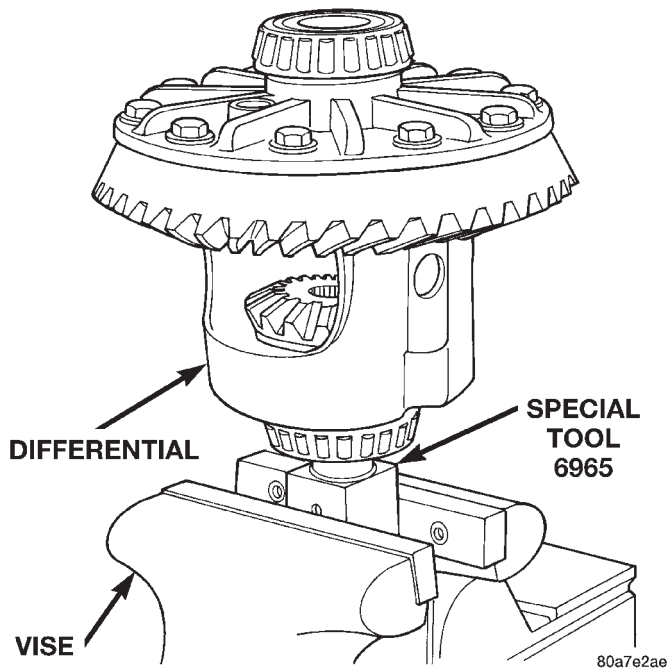

Fig. 64 Differential Case Holding Tool
- (1) Clamp Side Gear Holding Tool 6965 in a vise.
- (2) Position the differential case on Side Gear Holding Tool 6965 (Fig. 64).